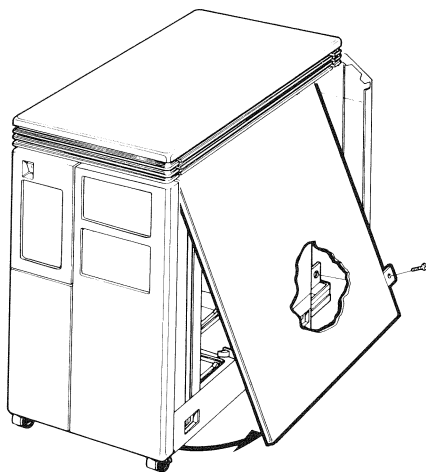

Figure 10-2 Right-Side Panel Unhooking
3. Loosen the captive screw that connects the right-side panel to the rear of the enclosure frame (Figure 10-2).